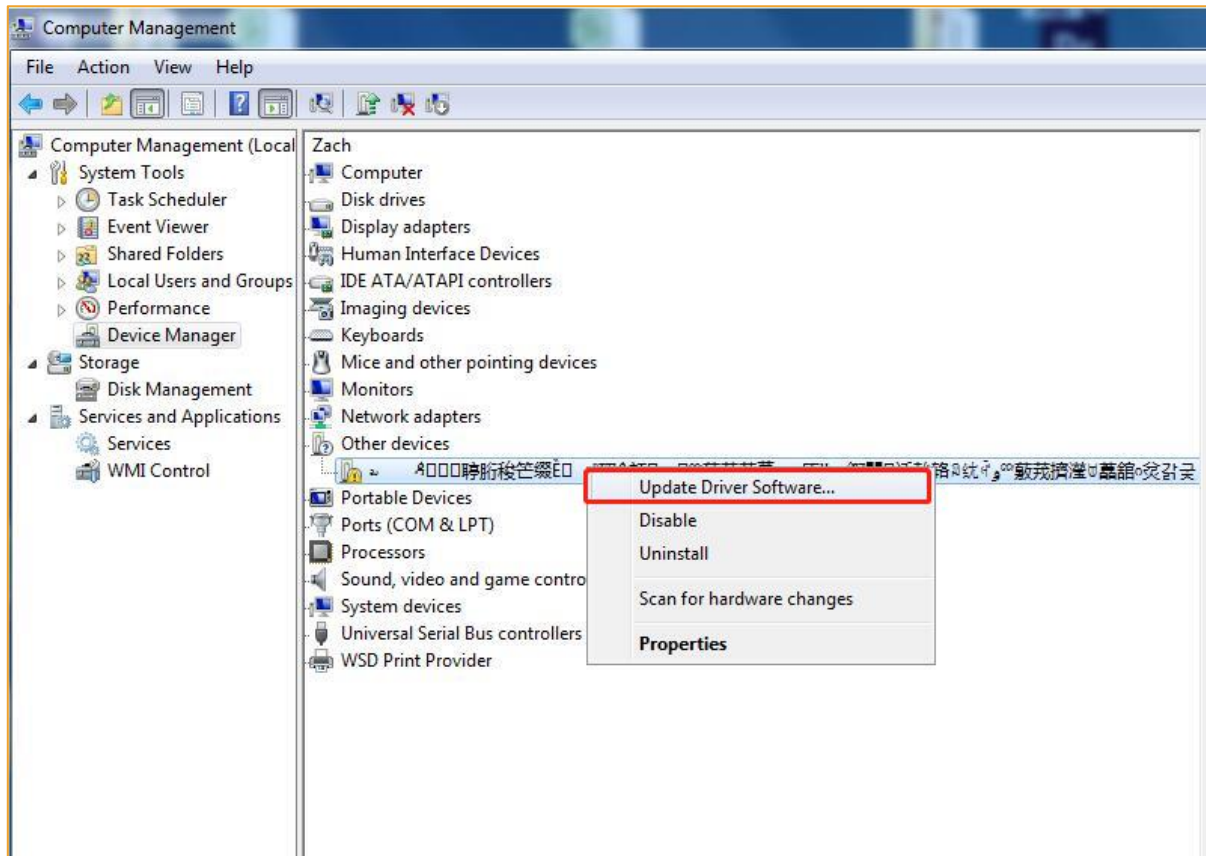

Figure 1.3 Update successful
- 3) Right-click the USB serial port and select the update driver software option, as shown in figure 1.3.